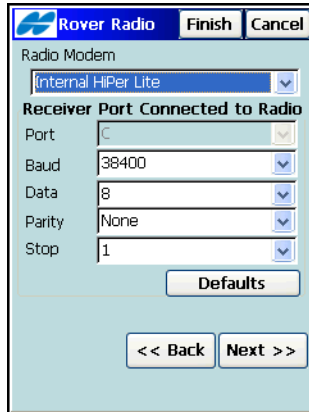

Figure 3-27. Rover Radio
- **Config: Rover Radio** (Figure 3-27 on page 3-29),
- **Next** – opens the **Rover Radio** screen (Figure 3-27 on page 3-29).
The **Rover Radio** screen contains parameters for the radio modem connected to the Rover receiver (Figure 3-27).
- **OK** – returns to the *Rover Radio* screen (Figure 3-27 on page 3-29).